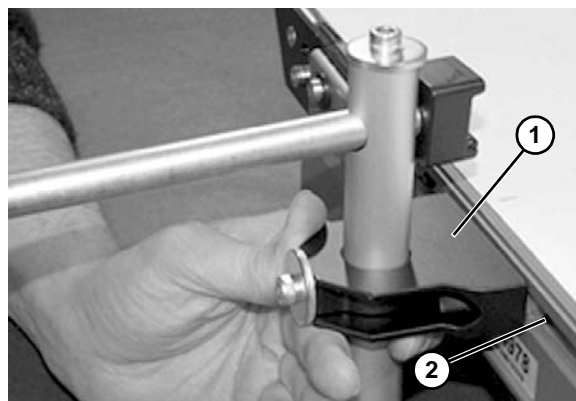

Figure 77
1. Install guide bracket assembly (Figure 77, item 1) into the conveyor T-slot (Figure 77, item 2).